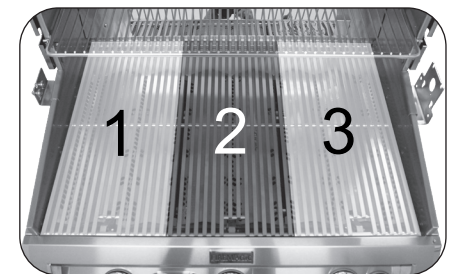

Fig. 31-2 Cooking zones detail
Your grill is divided into three cooking zones, each corresponding to a burner. Burners are numbered starting at one (1) on the left, going to three (3) on the right (see Fig. 31-2). The cooking zones are monitored by the digital thermometer - see DIGITAL THERMOMETER section.